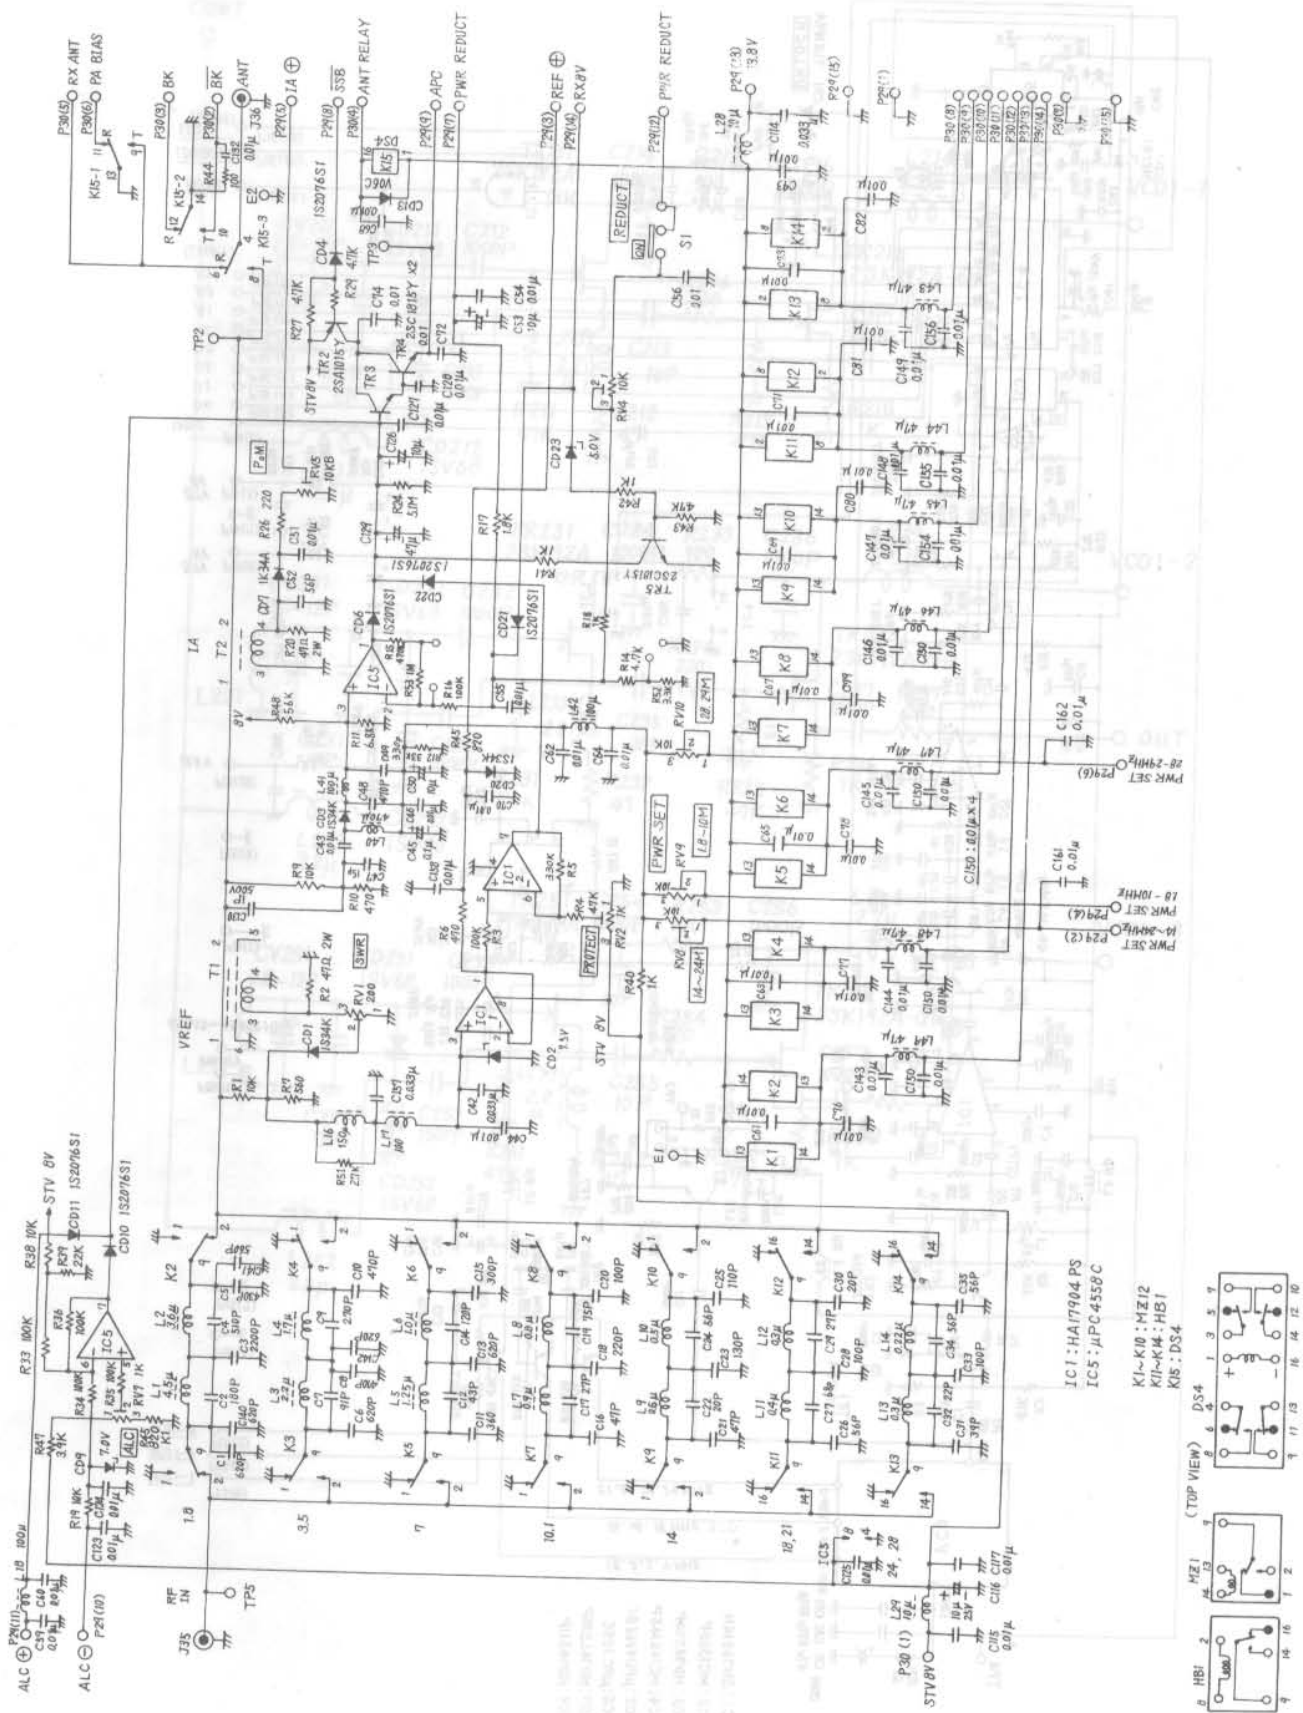

FIGURE 7.8 CMB-63 OUTPUT UNIT CIRCUIT DIAGRAM
- FIGURE 7.8 CMB-63 OUTPUT UNIT CIRCUIT DIAGRAM